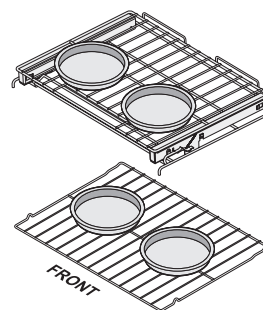
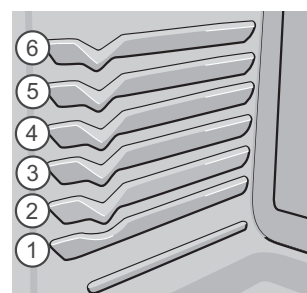

Figure 33: Convection baking on multiple levels/racks
Figure 34: Oven rack positions
- For batter and dough-based baked goods such as cakes, pastries, and breads, use the convection bake function for best results. Place the pans as shown in Figure 33.
- For best results when baking cookies using two oven racks, place racks in positions 3 and 5 (Figure 34). Use flat rack in position 3 and glide rack in position 5.
- For best results when baking cakes using two oven racks, place racks in positions 1 and 4 (Figure 34) and place pans as shown in Figure 33. Use flat rack in position 1 and glide rack in position 4.
- When baking using two oven racks, position bakeware as shown in Figure 33. Allow at least 2 inches (5 cm) of space between bakeware for proper air circulation.